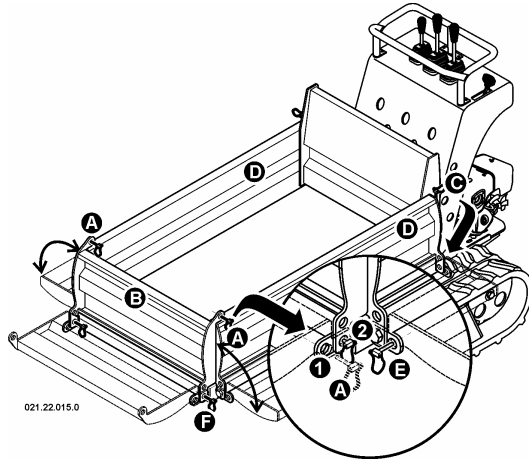

fig. 33 - Farming body
at a time as follows (see fig. 33):
- If the machine is equipped with a farming body, unblock the anterior side “B” (see fig. 33) by taking out the two pins “F”;